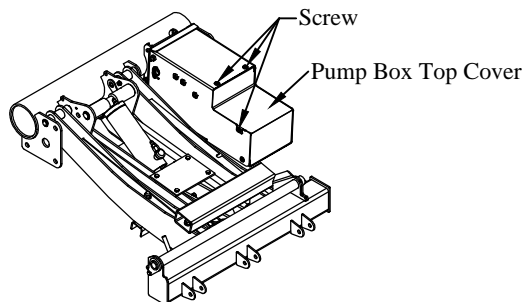

Figure 2: Pump box cover screws.
3. **Remove** the pump box top cover by removing the three (3) screws, and verify that the vent plug is installed (Figure 2).